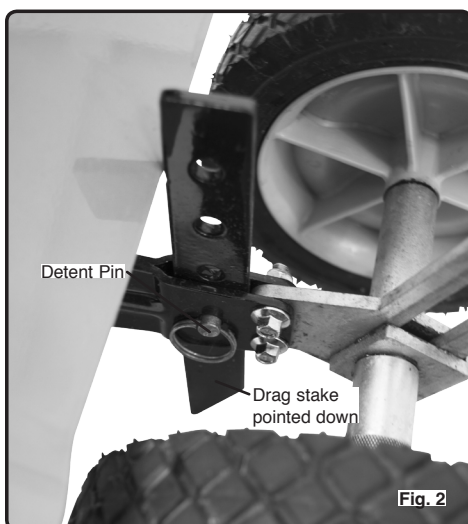

Fig. 2
7. The drag stake is shipped with the point facing upwards. To use for cultivating, remove detent pin, and turn the drag stake upside down so the point faces downward. Re-insert the detent pin. Refer to Figure 2.